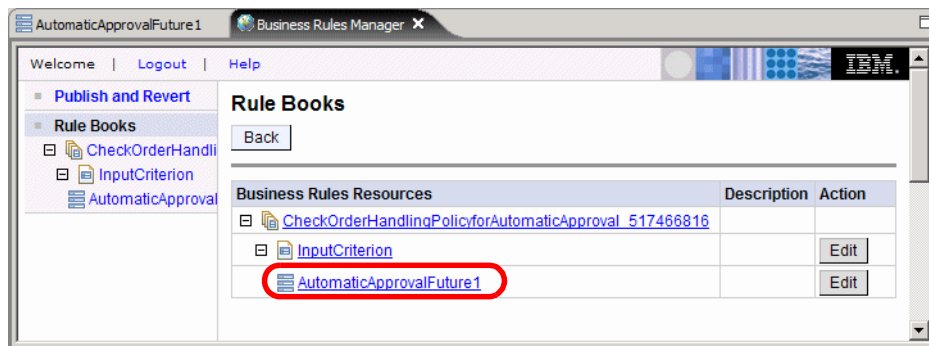

Figure 11-7 Business Rules Manager: Rule books
- ▶ The Business Rules Manager opens. Expand the sections (Figure 11-7).